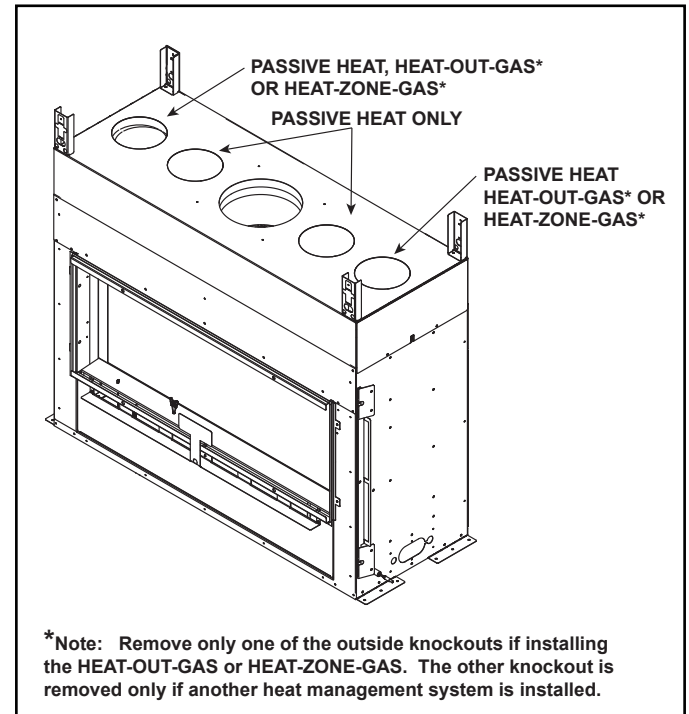

Figure 6.4
- Center the duct collar around the exposed hole and attach it to the appliance. See Figure 6.4.
- Passive Heat (PH-FRT, PH-SIDE, PHFR-MCE, PHSI-MCE): May be used with HEAT-ZONE-GAS or one HEAT-OUT-GAS. The dedicated knockouts must be used only as indicated in Figure 6.4.